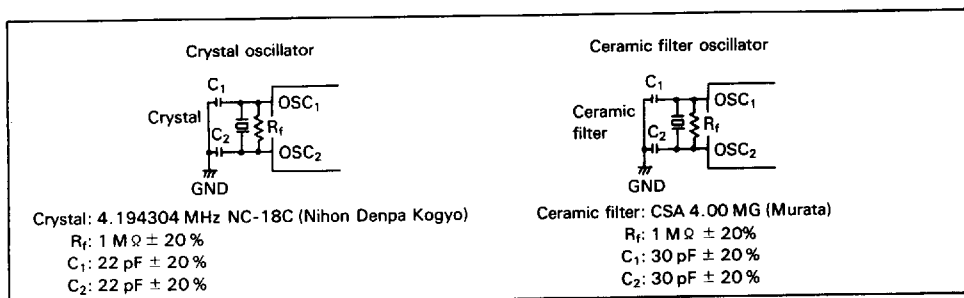

Figure 33 Oscillator Circuit
1. The oscillator stabilization time is the period from when V_{CC} reaches its minimum allowable voltage at power-on until when the oscillator stabilizes, or after RESET goes high. At power-on or recovering from stop mode, apply the RESET input for more than t_{RC} to meet the necessary time for oscillator stabilization. Since t_{RC} depends on the crystal or ceramic filter's circuit constant and stray capacitance, consult with the crystal or ceramic filter manufacturer when designing the RESET circuit. (See figure 33.)